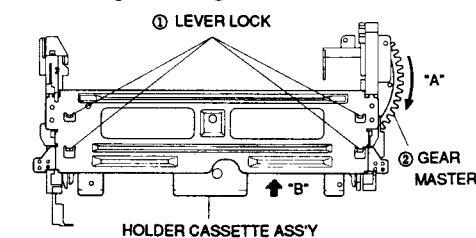

Fig. 57 How to operate the Housing Ass'y
- 1) Push four(4) Lever Locks ① of the housing ass'y simultaneously. (Refer to Fig. 57)
- 2) Push the holder cassette ass'y ③ toward arrow "B" while turning the gear master ② toward arrow "A".
(Refer to Fig. 57)
- 3) Load the gear loading L, R ass'y ④, ⑤ to the middle position of guide rail by turning the gear master ② toward arrow "A". (Refer to Fig. 57, 58)